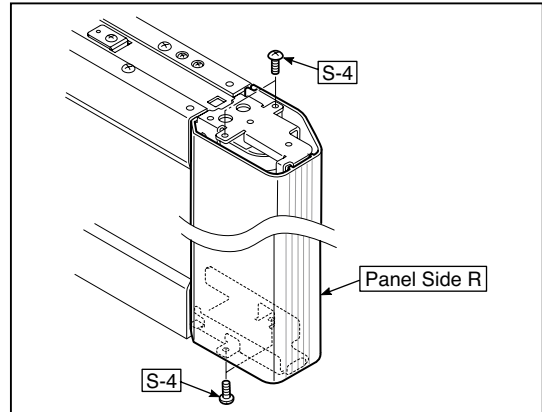

Fig.11
5) Remove the Panel Side R. (See Fig. 11)
- 1 Remove the "S-4" screws shown in the figure 11 and then remove the Panel Side R.